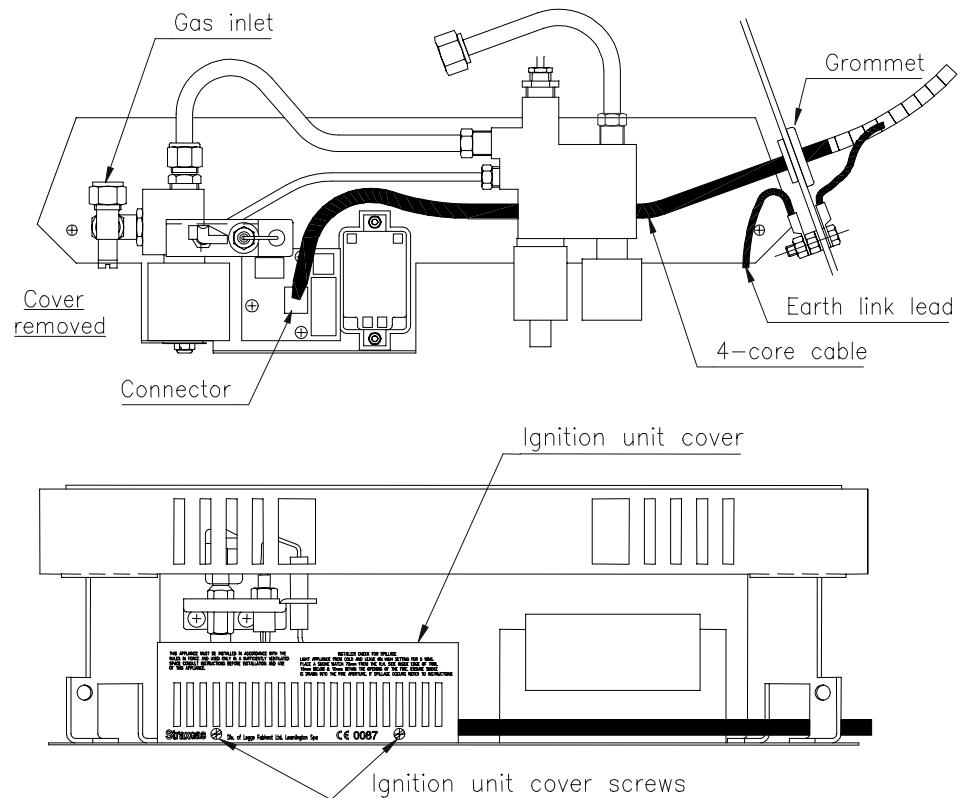

Fig. 14 Burner & ignition unit (18" shown, 22" is similar)
1. Connect the earth link lead from the burner to the earth bolt in the firebox side as shown in Fig. 14.
4. Remove the ignition unit cover beneath the burner (Fig. 14). Route the 4-core cable as shown and plug into the printed circuit board. Fit the cable grommet into the hole in the side of the fire and replace the cover. Do not allow the cable to loop up under the burner.